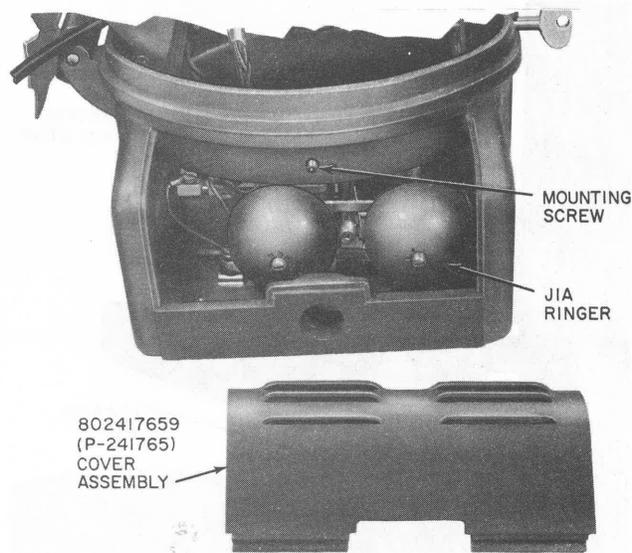

Fig. 10—525-Type (MD) Telephone Set, Cover Assembly Removed
3.09 Make the necessary circuit tests and adjust the ringer volume while the inner door is open and the cover assembly (Fig. 10) is removed on the 525-type telephone set or before the faceplate is installed on the 526-type telephone set.
4.06 To gain access to the ringer on the 525-type telephone set, remove lower cover mounting screw located on bottom of set housing (Fig. 10).